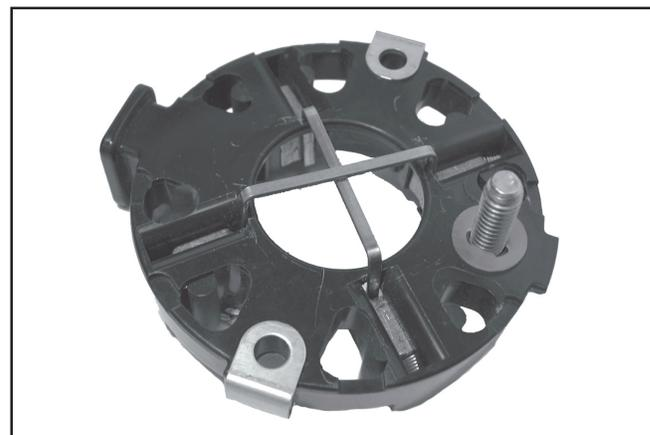

Figure 7-20. Brush Carrier Assembly with Staples.
4. If the brush assembly is not being replaced, position the springs and brushes within their pockets in the carrier; move them to the retracted position, and install carton staples to retain them. See Figure 7-20. Replacement brushes come pre-assembled in the carrier housing, retained with two carton staples.